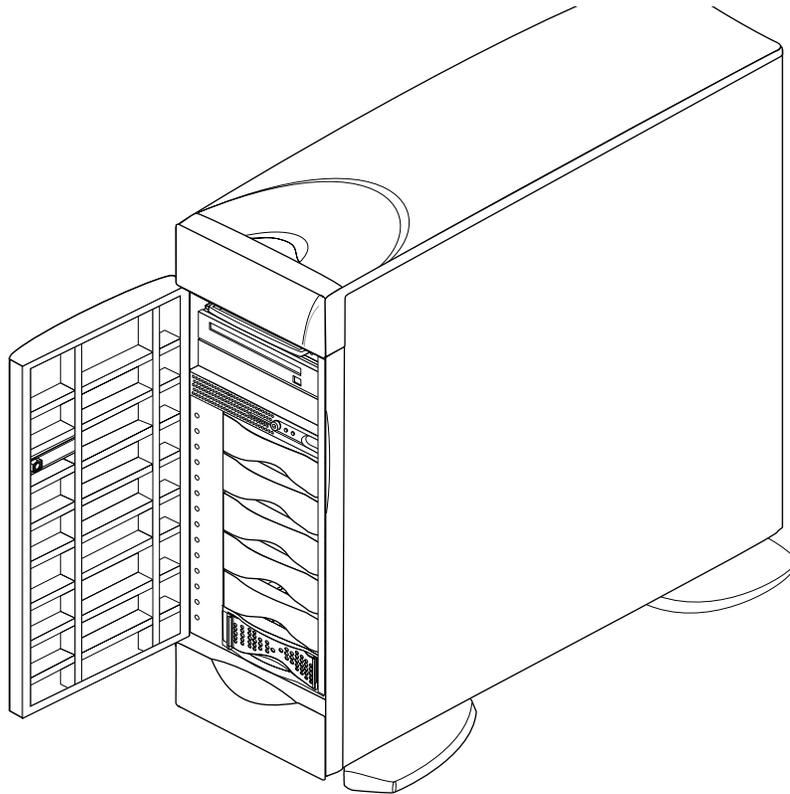

Figure 7-14 Opening the Front Door of Origin200
1. Open the front door of the chassis as shown in Figure 7-14.